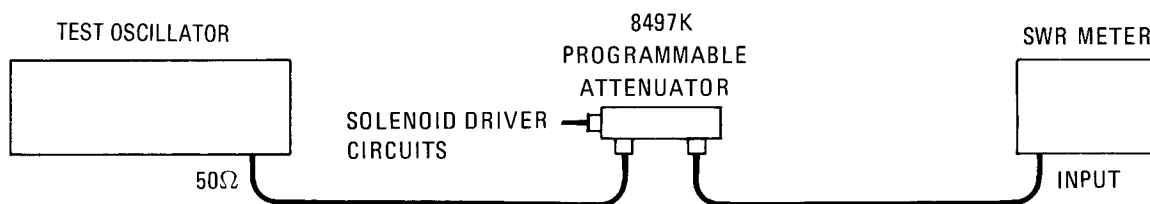

Figure 4 Operator's Check
1. Connect equipment as shown in Figure 4 with the attenuator set to 0 dB.
Troubleshooting consists of performing the Operator's Check shown in Figure 4 on page 10. If the instrument does not perform within limits, return the instrument to Agilent Technologies for repair.